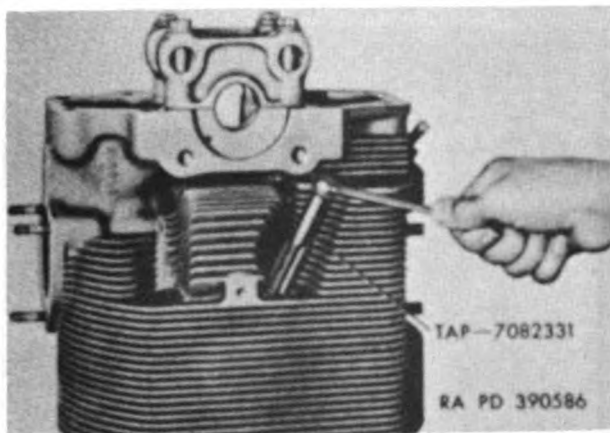

Figure 82. Relapping thread for Heli-coil insert.
- (c) If necessary, clean threads with tap 7082331 as shown in figure 82.